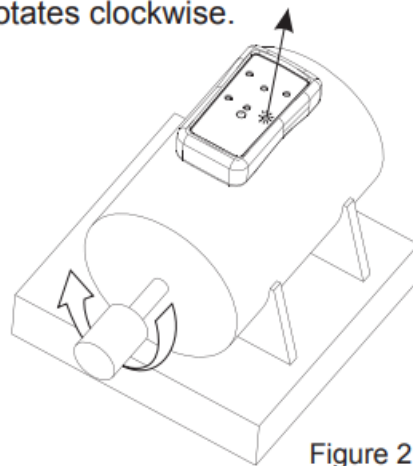

Figure 2
- Press “ON” button, power indicator illuminates and the test begins. “Clockwise” (R) or “Counter-clockwise” (L) rotation indicator illuminates, indicating the motor is rotating in a “clockwise” or “counter-clockwise” direction. See Figure 2 for details.